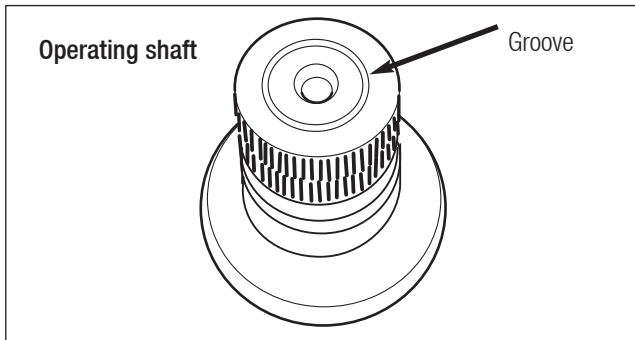

Fig. 13.6
- LH op-shafts are identified by a machined groove in the end face, lever end (Fig 13.6).